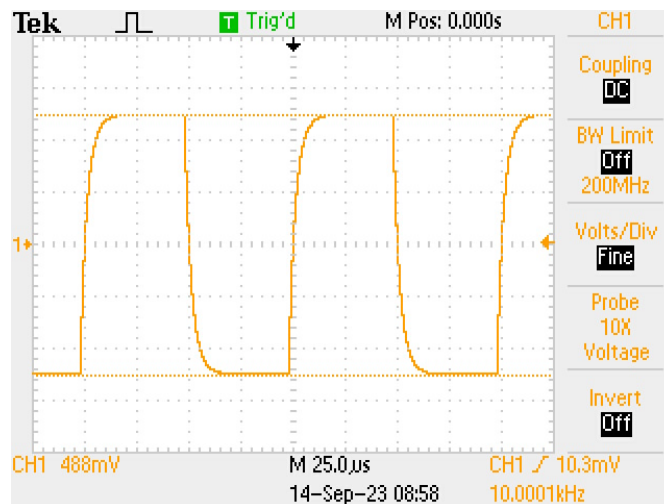

Figure 2.3: Rise Time Oscilloscope setup 1
- Center the waveform vertically. See Figure 2.3 *Rise Time Oscilloscope setup 1*.